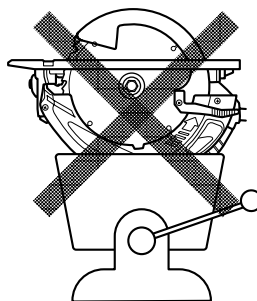

Fig. 7
- 24. Never attempt to saw with the circular saw held upside down in a vise.** This is extremely dangerous and can lead to serious accidents. (Fig. 7)